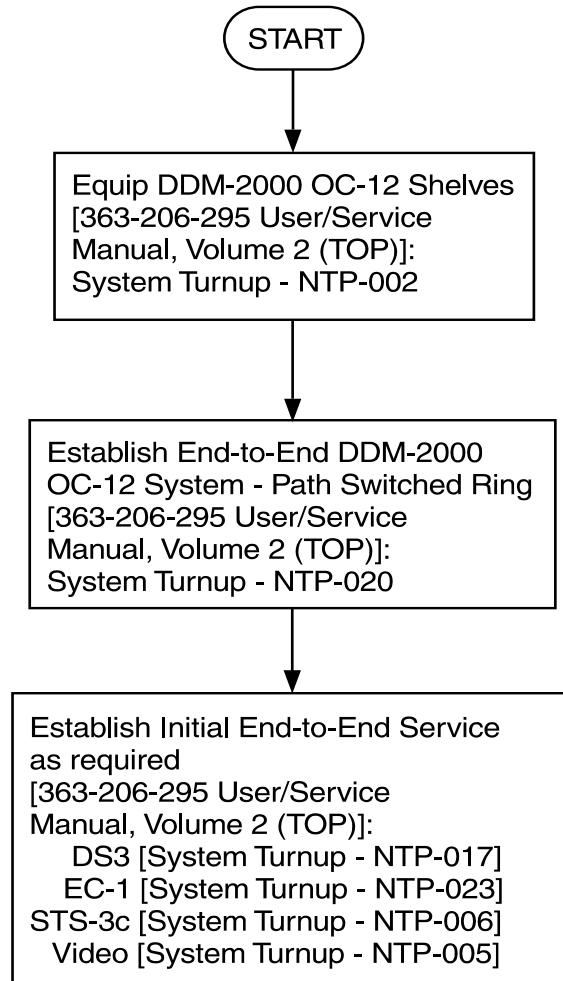

Figure 14 – DDM-2000/FT-2000 Large Network Configurations — DDM-2000 OC-12 Path Switched Ring
- Figure 14 DDM-2000/FT-2000 Large Network Configurations — DDM-2000 OC-12 Path Switched Ring